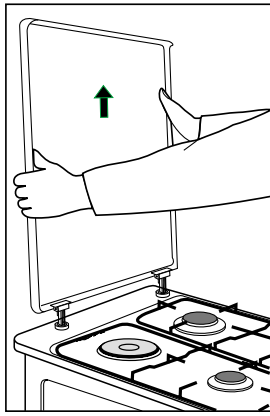

Fig. 17 Taking out the cover
- First, open the cover completely, grasp its sides, lift it up and pull it out of the hob holes (fig. 17). Wash, wipe dry, and put aside.